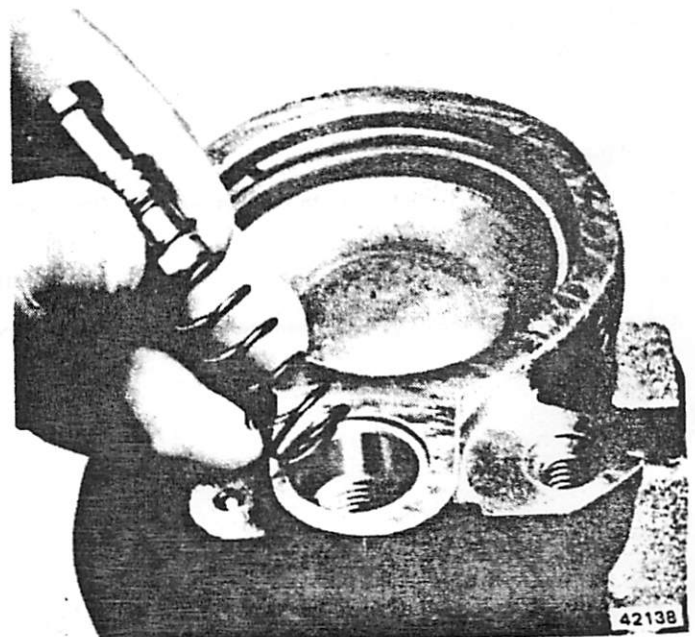

Fig. 2L-61 Flow Control Valve and Spring Installation
(18) Install mounting stud O-ring seals in pump body counterbores (fig. 2L-55). Lubricate O-rings with petroleum jelly before installation.
(19) Lubricate reservoir O-ring seal with petroleum jelly and install seal in pump body seal groove.
(20) Lubricate O-ring seal surface of pump reservoir with petroleum jelly and install reservoir on pump body. Be sure reservoir is aligned with mounting stud bores and seals.
(21) Install mounting studs. Tighten studs to 35 foot-pounds (47 N•m) torque.
(22) Lubricate pump union fitting O-ring with petroleum jelly and install O-ring on fitting.
(23) Install pump union fitting in flow control valve bore and tighten fitting to 35 foot-pounds (47 N•m) torque.